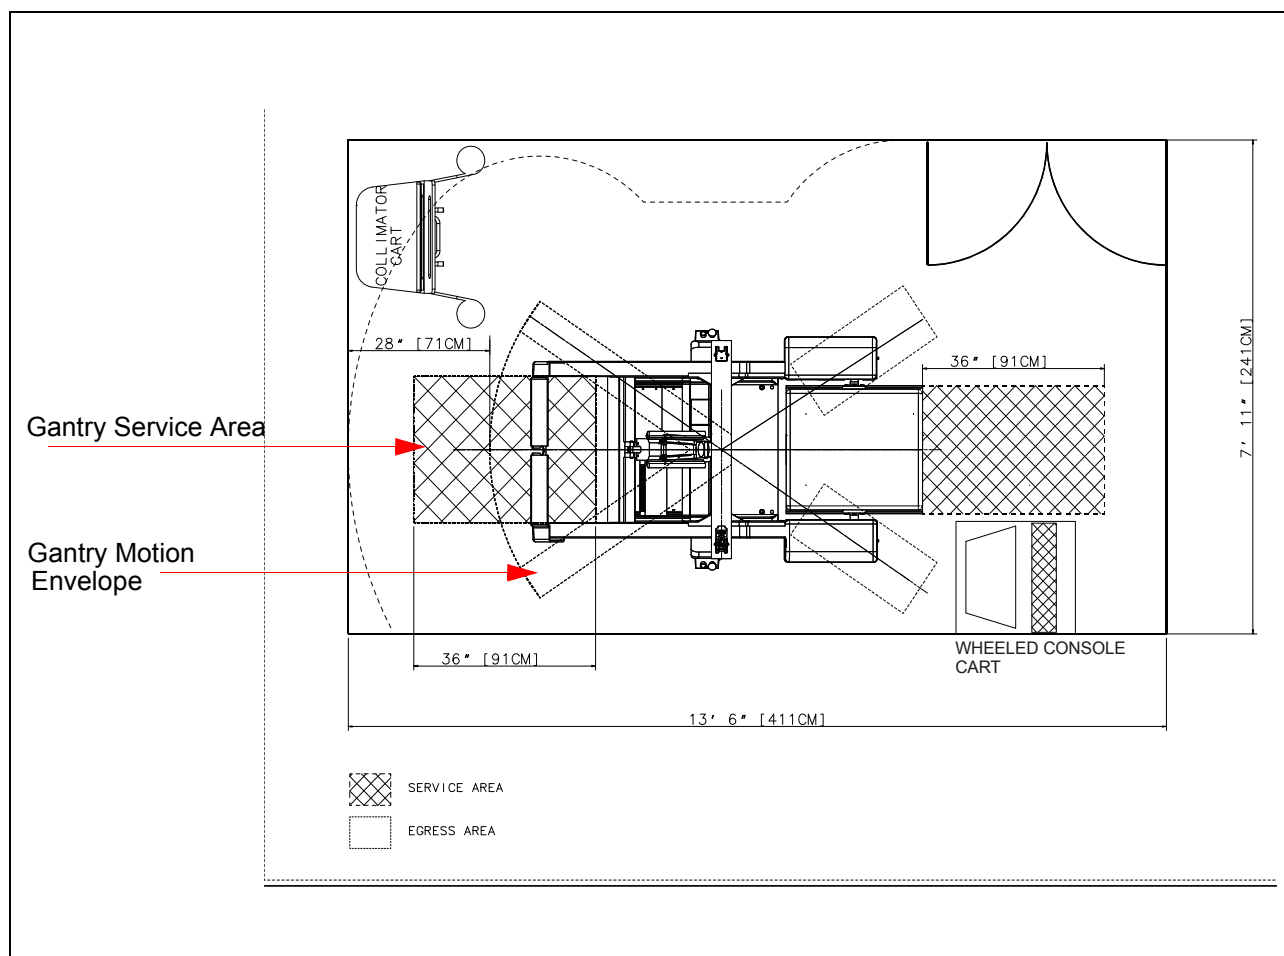

Figure 3-7: MPR Without Table Minimum Layout
Figure 3-7 shows a minimum room layout drawing showing location of all basic units for a Millennium MPR system without table. Observe that the dimensions given are for installation of the system only, requirements for clinical access, and for peripheral clinical equipment placement, such as storage cabinets, sinks, etc., must be taken into considerations during the room layout.
- All gantry service done on front or back, as shown in Figure 3-7.